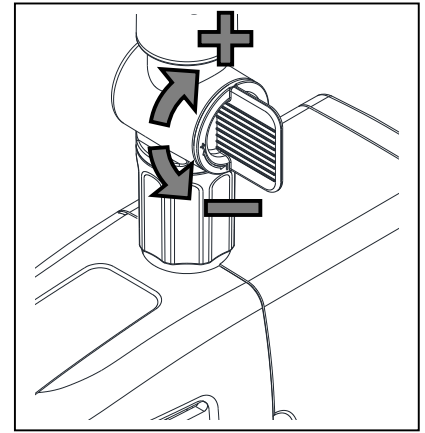

Fig. 7
7. Adjust the flow control to the preferred setting. Fig. 7